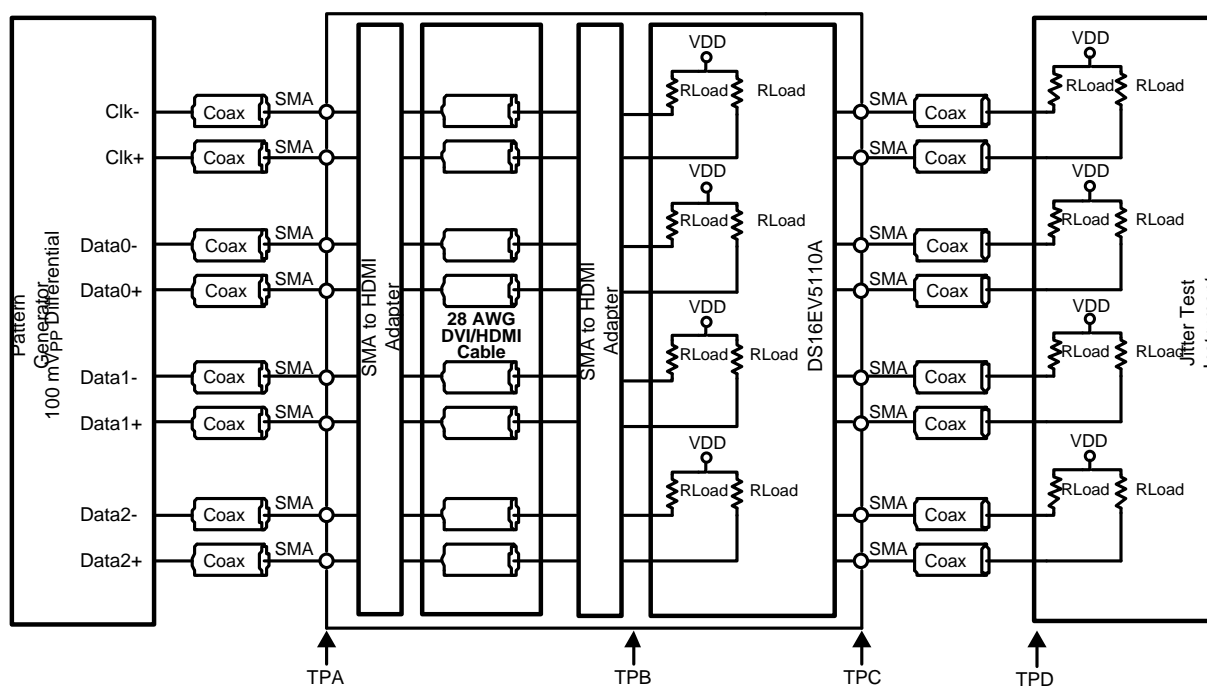

Figure 2. Test Setup Diagram for Jitter Measurement
(3) Allowed supply noise (mV_{P-P} sine wave) under typical conditions.
(4) Specification is ensured by characterization and is not tested in production.
(5) Deterministic jitter is measured at the differential outputs (TPC of Figure 2), minus the deterministic jitter before the test channel (TPA of Figure 2). Random jitter is removed through the use of averaging or similar means.
(6) Total Jitter is defined as peak-to-peak deterministic jitter from ⁰ + 14.2 times random jitter in ps_{rms}.
(7) Random jitter contributed by the equalizer is defined as $\sqrt{J_{OUT}^2 - J_{IN}^2}$. J_{OUT} is the random jitter at equalizer outputs in ps_{rms}, see TPC of Figure 2; J_{IN} is the random jitter at the input of the equalizer in ps_{rms}, see TPA of Figure 2.